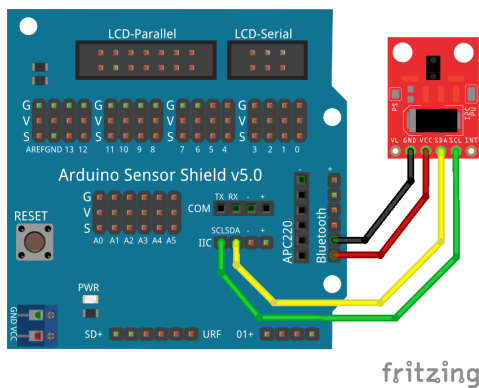

Figure 4: APDS-9960 connection.
An example of how to connect the sensor to the Arduino is shown in Figure 4 with connections corresponding to Table 1. No mounting hardware for this sensor has been provided or suggested for the project, this is up to your team.
2. Connect the APDS-9960 as shown in Figure 4.